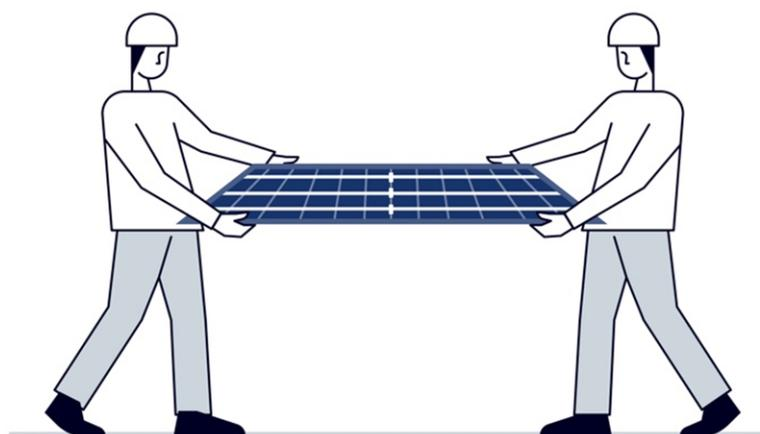

Figure 24: Module handling.
- e) PV modules must be grabbed from the aluminum frame with two hands (Figure 24).